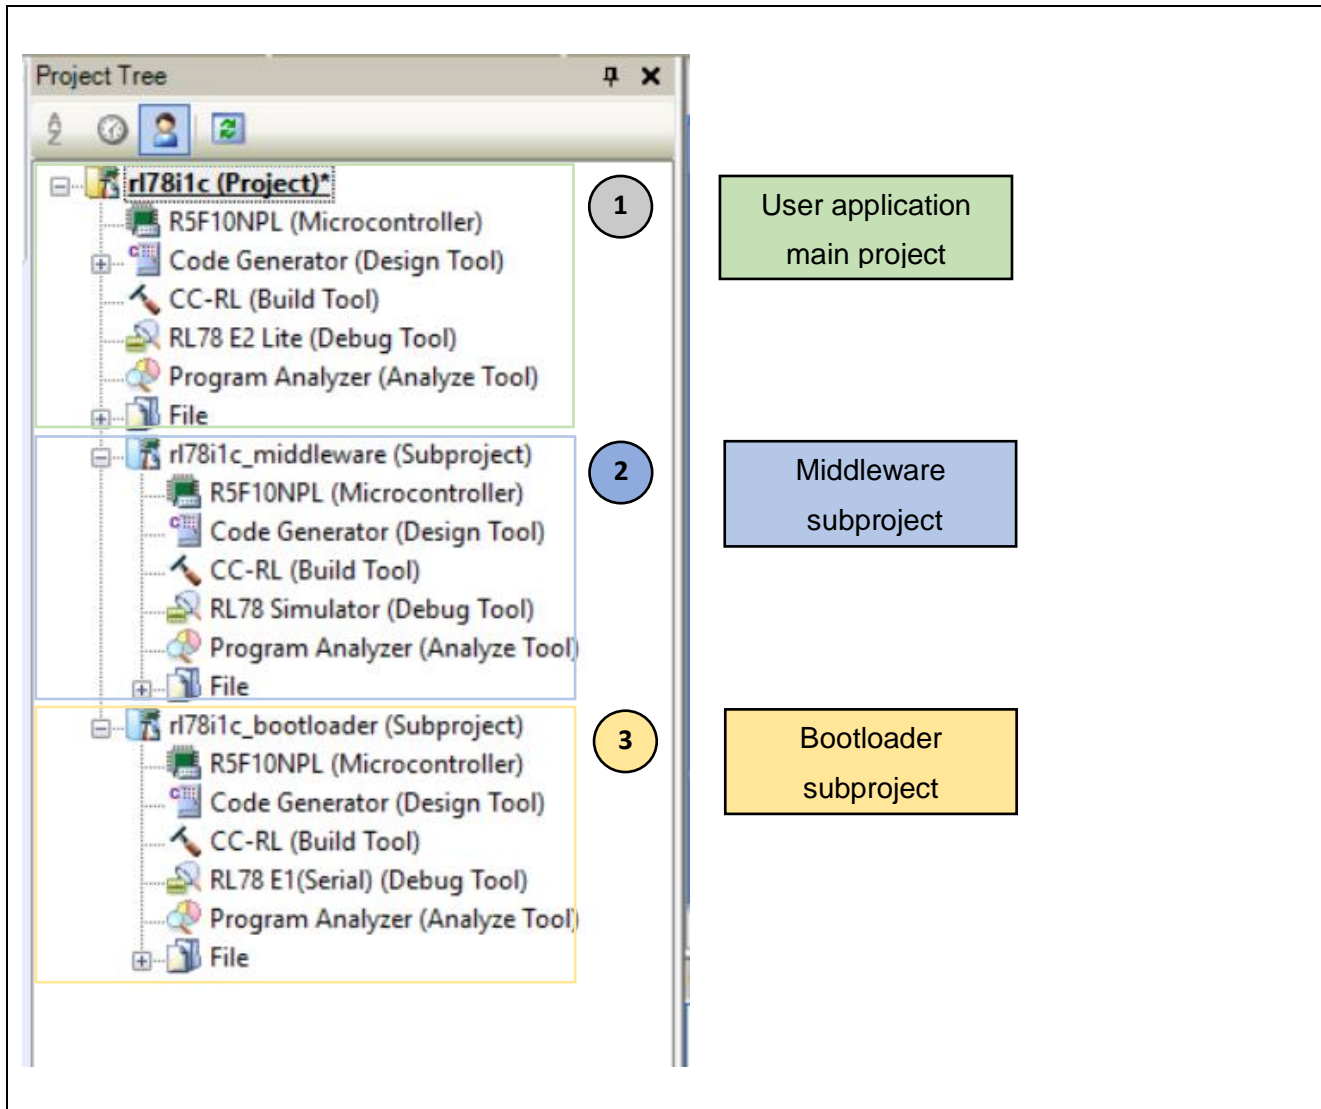

Figure 4-1 : Project Configuration
The numbers (1), (2), and (3) above indicate the correspondence with each project in Figure 4-1.
This section describes how to allocate ROM and RAM for the rl78i1c project (Figure 4-1 (1)).
This section describes how to allocate ROM and RAM for the rl78i1c\_middleware subproject (Figure 4-1 (2)). The allocation method is shown below for CS+ and e2studio respectively.
This section describes how to allocate ROM and RAM for the rl78i1c\_bootloader subproject (Figure 4-1 (3)). The allocation method is shown below for CS+ and e2studio respectively.
This is required for all rl78i1c project (Figure 4-1 (1)), rl78i1c\_middleware subproject (Figure 4-1 (2)), and rl78i1c\_bootloader subproject (Figure 4-1 (3)).